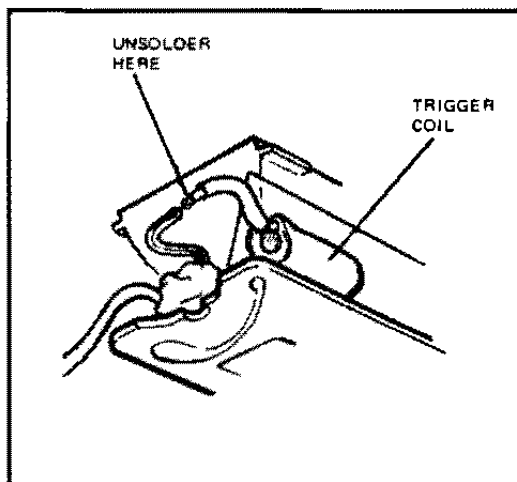

FIG. 3-3 UNSOLDERING THE TRIGGER COIL LEAD
- a. Pull back the sleeving on the high voltage lead of the trigger coil (Figure 3-3) and unsolder the lead as shown.